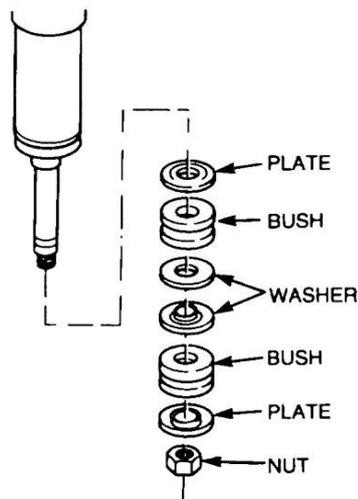

Figure 102 Removal of the Shock Absorber
- e. Remove the nut, cup washer and rubber bush securing each shock absorber to the axle housing (Figure 102).